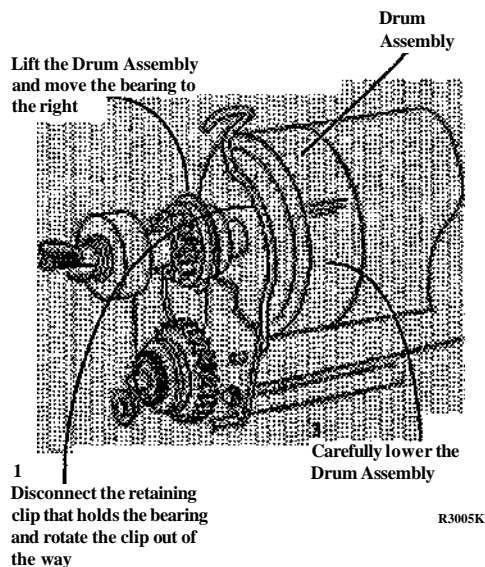

Figure 3. Moving the Bearing (Left Side)
7. (Figure 3): Move the bearing out of the Xerographic Module Frame (Left Side).